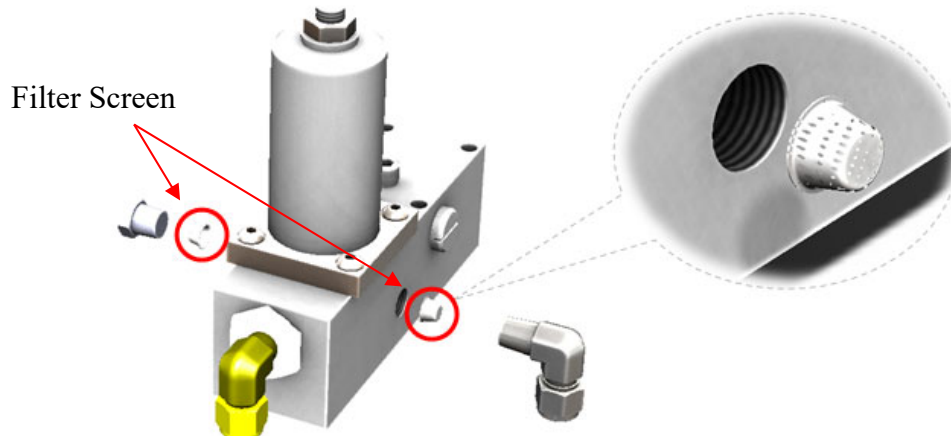

Figure 23: Exploded View of Typical Filter Screen Locations on a Modulating Pilot Valve
7. Remove the connection into the pilot (this will either be a tube-to-pipe fitting or the field test 3-way valve). See Figure 23.